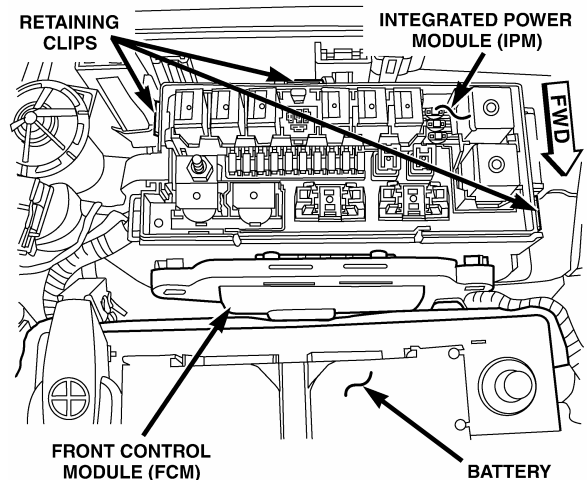

Figure 2
- d. Using a suitable flat bladed tool, depress the three retaining clips and lift the IPM straight up off of the bracket tabs (Figure 2).
15. Position the IPM over the three bracket tabs and apply downward pressure until the retaining clips snap securely into place (Figure 2).